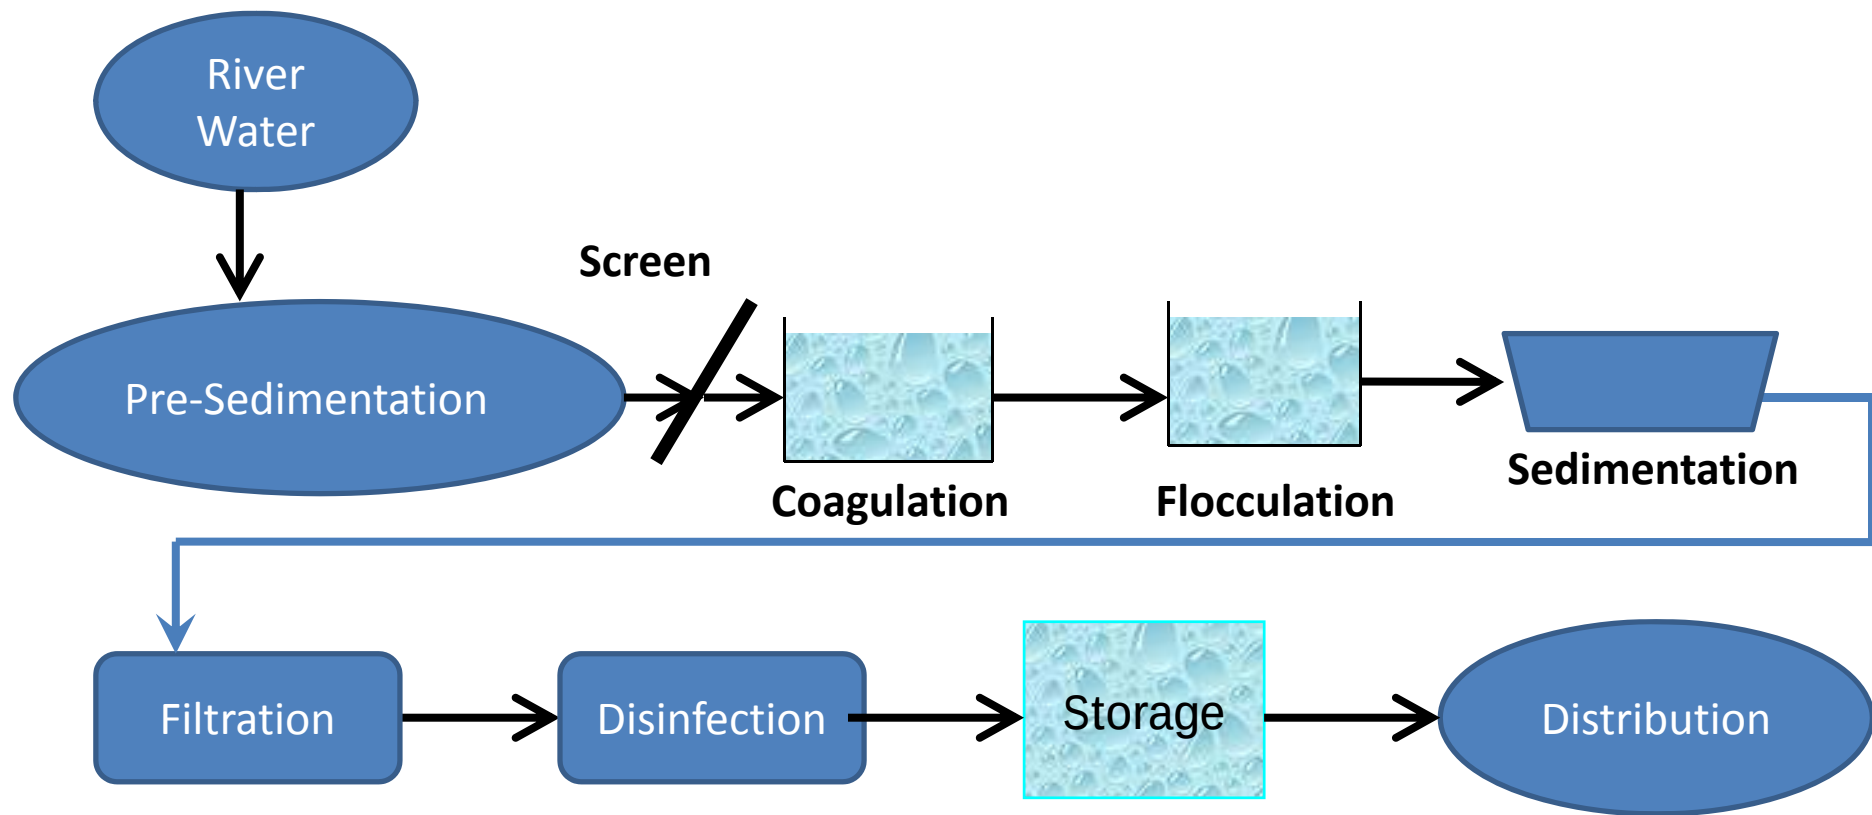

Figure 1: Filtration Treatment Plant (River Water)
- ☐ **Sedimentation is used in water treatment at the locations indicated in Figures 1 through 4.**